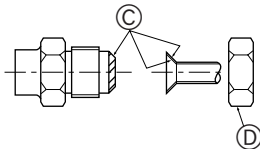

Fig. 4-2
A) (Fig. 4-2)
B) (Fig. 4-2)
4.2. Rohranschlüsse (Fig. 4-2)